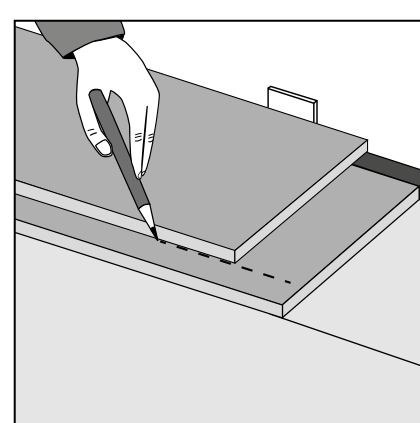

Figure 19 Last row
- > Lay these panels on top of the installed row (Fig 19). Hold them firmly in place. Then line up a third panel on top. Place the edge of this panel against the wall after inserting a spacer.